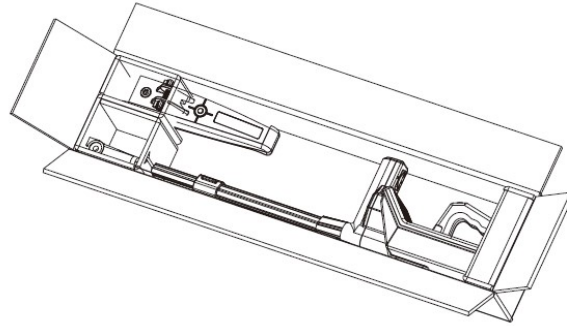

Figure 10
- 1) Open the box (see Figure 10).